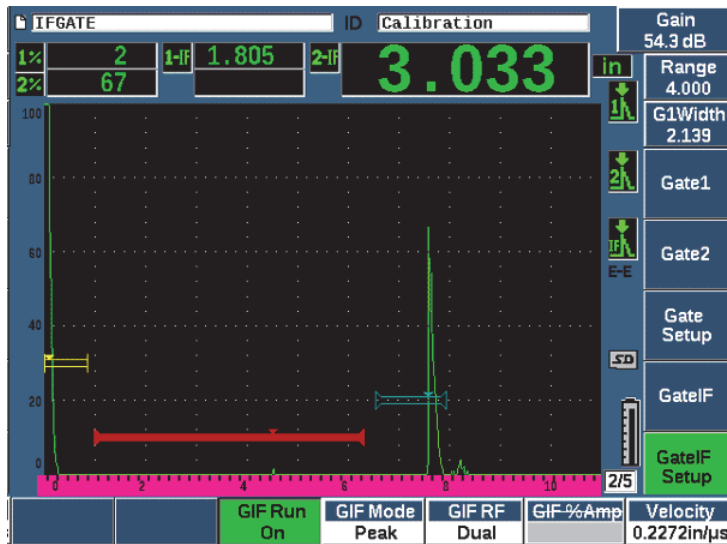

Figure 11-34 Setting the gate interface run mode
3. Use the adjustment knob or arrow keys to set the parameter to **On** (see Figure 11-34 on page 285).